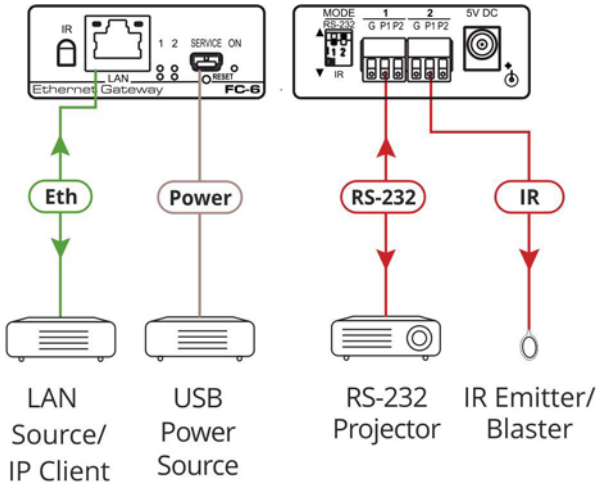

Figure 5: Connecting the FC-6 Ethernet Gateway - RS-232/IR
To connect the FC-6 as illustrated in the example in Figure 5:
4. If the **FC-6** does not receive power from a USB power connection, connect the device to the power supply and connect the power adapter to the mains electricity (not shown in Figure 5).